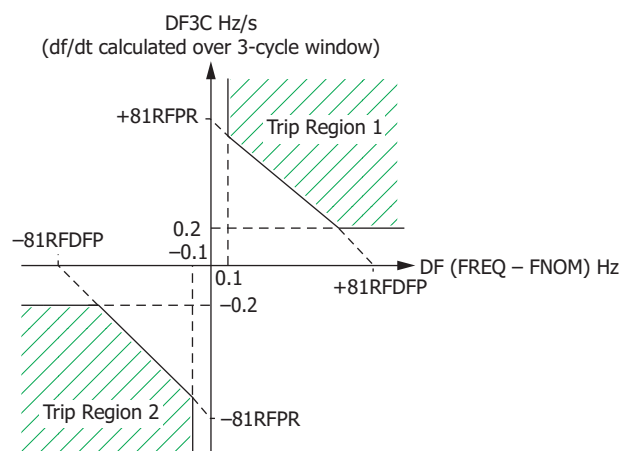

Figure 11 81RF Characteristic Power Element Protection
The fast rate-of-change-of-frequency protection (81RF) element, provides a faster response compared to the frequency (81) and rate-of-change-of-frequency (81R) elements. Fast operating speed makes the 81RF element suitable for detecting islanding conditions. The element uses a characteristic (see *Figure 11*) based on the frequency deviation from the nominal frequency ($DF = \text{FREQ} - \text{FNOM}$) and the rate-of-change of frequency (DF3C) to detect islanding conditions.